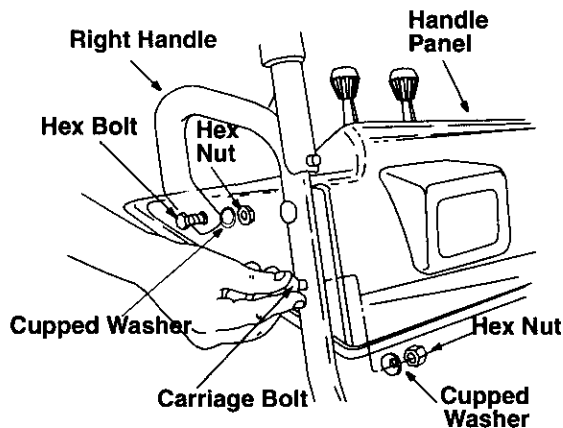

Figure 3
- Place the handle panel in position between the handles so the ends of the curved part of the handles go through the slots in the handle panel. While placing the handle panel, make sure to route chute and chute cable between the handles underneath the panel keeping the cable on top of the engine. Align the holes in the handle with the holes on two sides of the handle panel. See Figure 3.
- Attach the handle panel to the handle with two carriage bolts, cupped washers (cupped side against the handle panel) and hex nuts on each side. Align the contour of the carriage bolt head with the handle. See Figure 3. You will find these fasteners in the hardware pack (group B on page 5). Repeat on other side.
- Align the hole on the curved part of the right handle with the corresponding hole on the right side of handle panel making sure that this end of the handle is firmly placed in the slot on the handle panel. See Figure 3.
- Insert a hex bolt, cupped washer and hex nut from Group F of the hardware pack through these holes as shown in Figure 3. Tighten to secure. Do not attach the left side now.